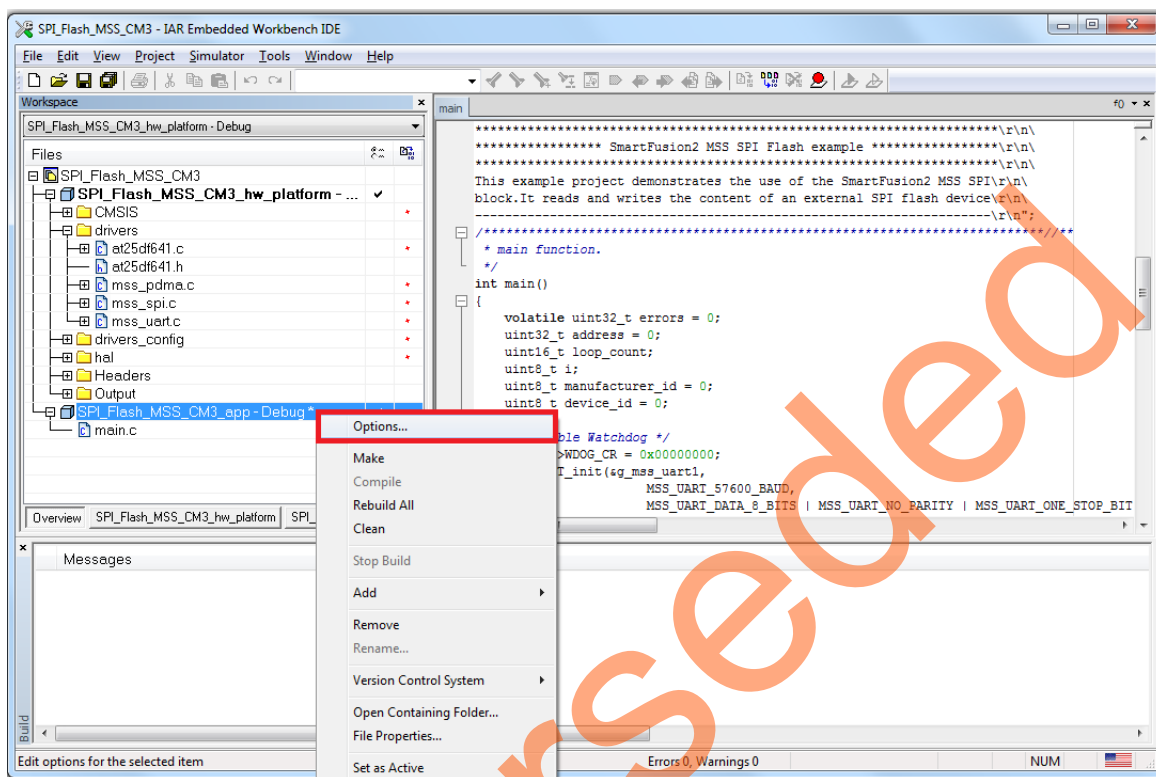

Figure 27 • IAR Workspace Window - Choose Options
12. To configure the project, right-click the project name (SPI_Flash_MSS_CM3_app) and click **Options** as shown in Figure 27.